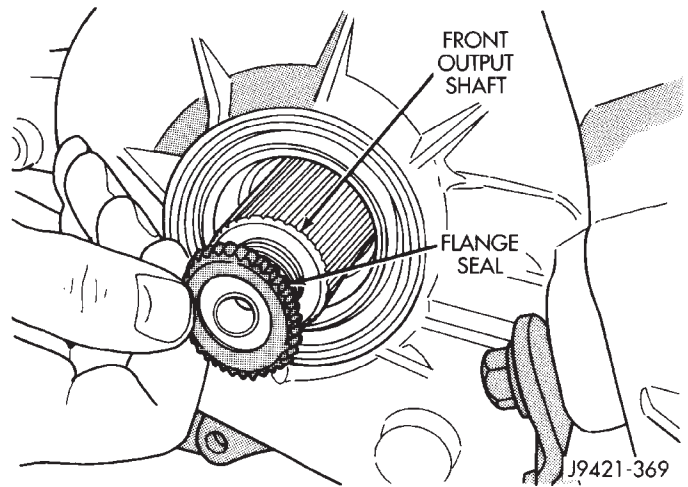

Fig. 72 Installing Seal On Front Shaft
(19) Apply 3 mm (1/8 in.) wide bead of Mopar gasket maker, silicone adhesive sealer, or Loctite 518 to mounting surface of extension housing.
(20) Align and install extension on retainer. Then install and tighten extension bolts to 27-34 N·m (20-25 ft. lbs.) torque.
(21) Install new seal on front output shaft (Fig. 72).